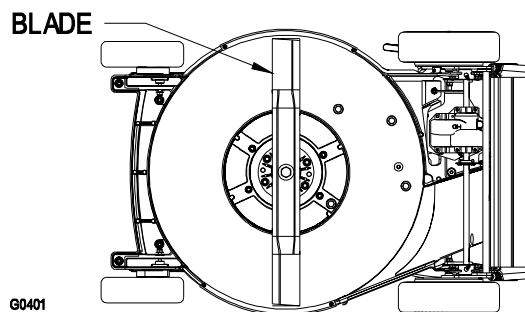

FIGURE 18
4. Tip the lawn mower onto its **right** side (Fig. 18).